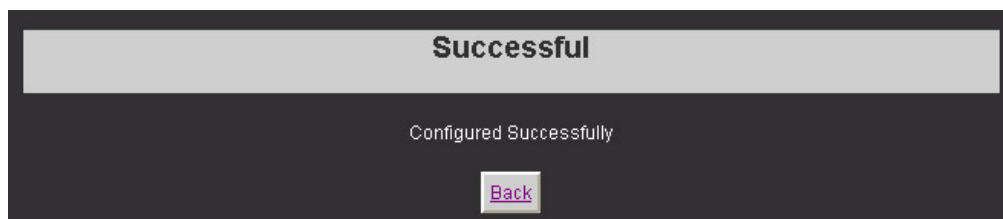

Figure 3.25 Configured Successfully
2. If the update is successful, the following screen appears.(Figure 3.25)